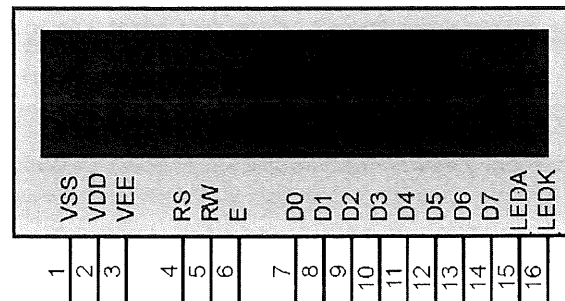
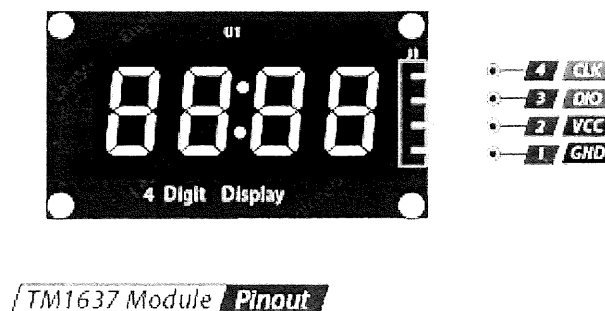
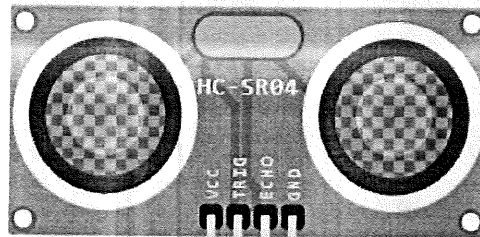
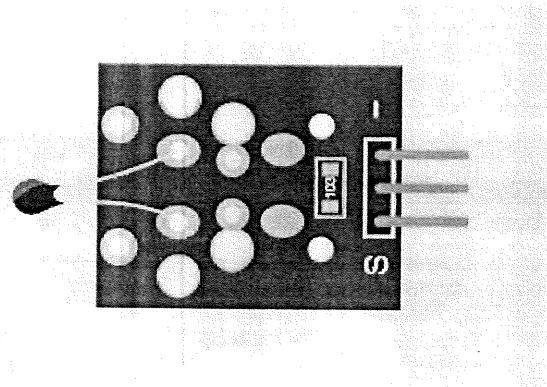

Figure 1: LCD pin out
Figure 3: TM1637 module
Figure 4: SR04 ultrasonic distance sensor
Figure 5: NTC temperature sensor
- a) Figure 1 shows the pin out of the 16x2 LCD. **Describe** the function of VSS, VDD, VEE, RS, RW, E and data bus (D0-D7) at LCD.
- i) **Produce** schematic diagram for the connection between Pi Pico, SR04 ultrasonic distance sensor, NTC temperature sensor, TM1637 module and LCD. Refer Figure 3 for Tm1637 module, Figure 4 for SR04 ultrasonic distance sensor, Figure 5 for NTC temperature sensor and Figure 1 for LCD. Please use attachment 4 to complete the diagram. You may refer to Pi Pico pinout in the attachment section. (15 marks)